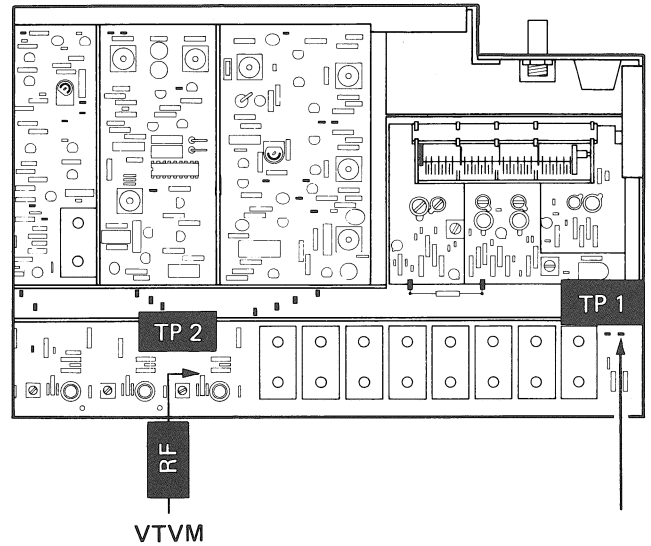

Fig. 4.4-2
4.4.3. Connect RF probe of VTVM to testpoint 2 (see fig. 4.4-2)
IF matching network remains connected to test point 1 (see fig. 4.4.2.)